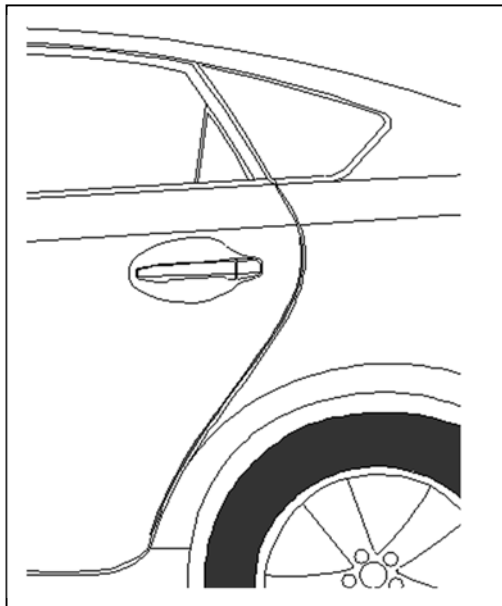

Fig. 1-9
- (viii) Carefully close the rear door and visually ensure the DEG has sufficient clearance from the adjoining body panels. Carefully remove the template from the door and retain for use on the passenger side (Fig. 1-9).